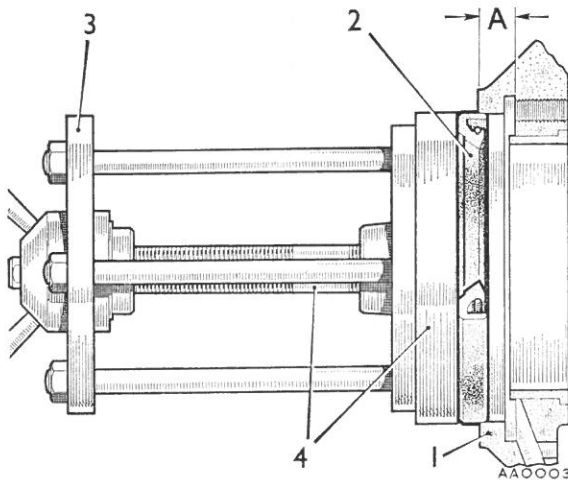

Fig. Aa.19
- (5) Take a depth measurement from any convenient point on the periphery of the housing bore of the front face of the housing to the undercut face (see Fig. Aa.19). This measurement will be approximately $\frac{3}{8}$ in. (9.5 mm.), but should it be more or less than this measurement this must be taken into account and either added to or subtracted from $\frac{3}{8}$ in. (9.5 mm.).